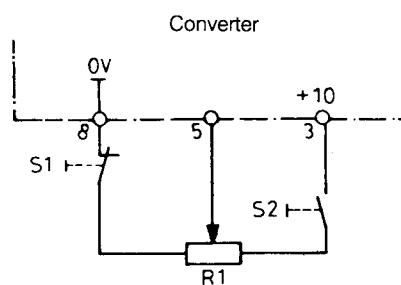

Fig. 6.4.1.1
- Connect external switches S1 and S2 as in Fig. 6.4.1.1.